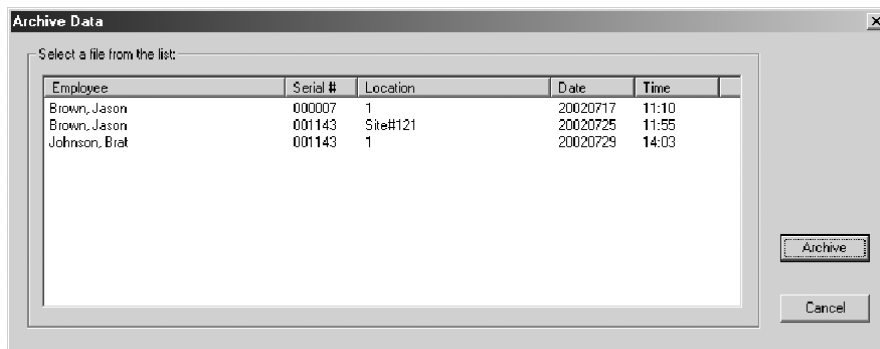

Figure 13 A screenshot of the Archive Data dialog box.
- Click on the Utility menu, then on Archive Data, or simply click on the Archive Data button on the toolbar of the Main Screen. This brings up the Archive Data dialog box (See **Figure 13**), which lists all the files available.